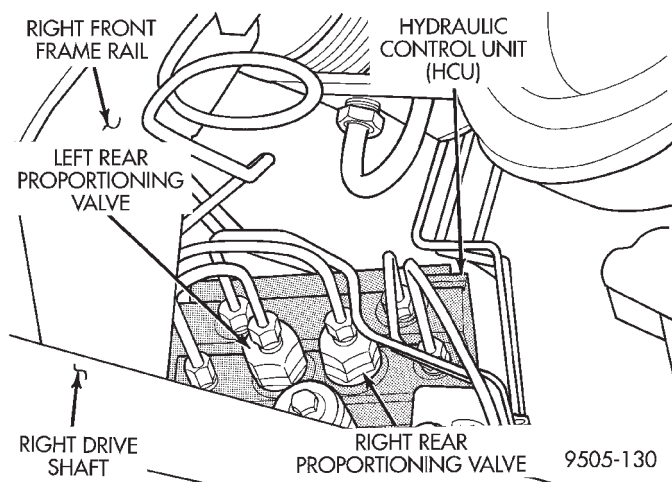

**Fig. 27 Proportioning Valve Locations On HCU**
One proportioning valve controls the right rear brake, and the other proportioning valve controls the left rear brake (Fig. 27). Therefore, a road test to determine which rear brake slides first is essential. Once the wheel which is skidding first is determined, use the following procedure to diagnose the proportioning valve.
(1) After road testing the vehicle to determine which rear wheel exhibits premature ABS cycling, refer to (Fig. 27) to determine which proportioning valve needs to be tested.
(2) Remove hydraulic brake line (Fig. 27) from proportioning valve controlling the rear wheel of the vehicle which has premature wheel skid.
(3) Then remove proportioning valve from that outlet port of the HCU.
(4) Install Pressure Test Fitting, Special Tool 6805-1 or 6805-2 into the outlet port of the HCU.
(5) Install proportioning valve into pressure test fitting installed in the HCU outlet port.
(6) Install Pressure Test Fitting, Special Tool 6805-3 or 6805-4 into the outlet of the proportioning valve.
(7) Connect brake hydraulic line onto pressure test fitting installed in proportioning valve.
(8) Install a Pressure Gauge, Special Tool C-4007-A into each pressure test fitting. Bleed air out of hose from pressure test fitting to pressure gauge, at pressure gauge to remove all trapped air.
(9) With the aid of a helper, apply pressure to the brake pedal until reading on proportioning valve inlet gauge, is at the pressure shown on the following chart. Then check the pressure reading on the proportioning valve outlet gauge. If proportioning valve outlet pressure does not agree with value shown on the following chart, when inlet pressure shown on chart is obtained, replace the proportioning valve. If proportioning valve is within pressure specifications do not replace proportioning valve.
(10) Check rear wheel brake shoe linings for contamination or for replacement brake shoes not meeting OEM brake lining material specifications. These conditions can also be a possible cause for a premature rear wheel skid.